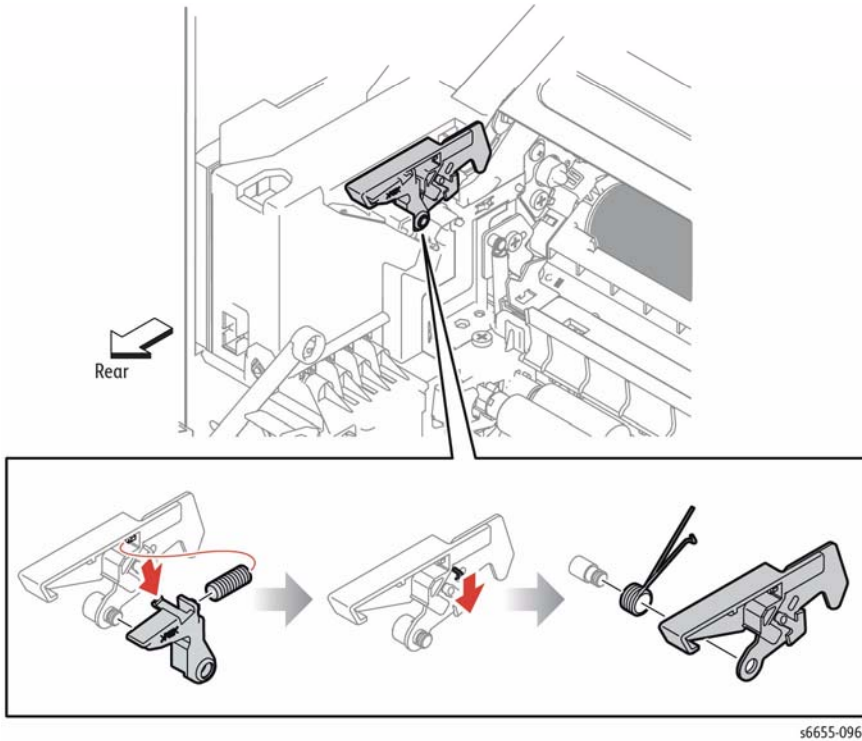

Figure 1 Remove the Transfer Belt Latch Plate and Transfer Belt Right Rear Spring
4. Refer to Figure 1 to locate and release the hook on the Transfer Belt Right Latch Arm, and pull it off of the shaft while removing the Transfer Belt Latch Spring.